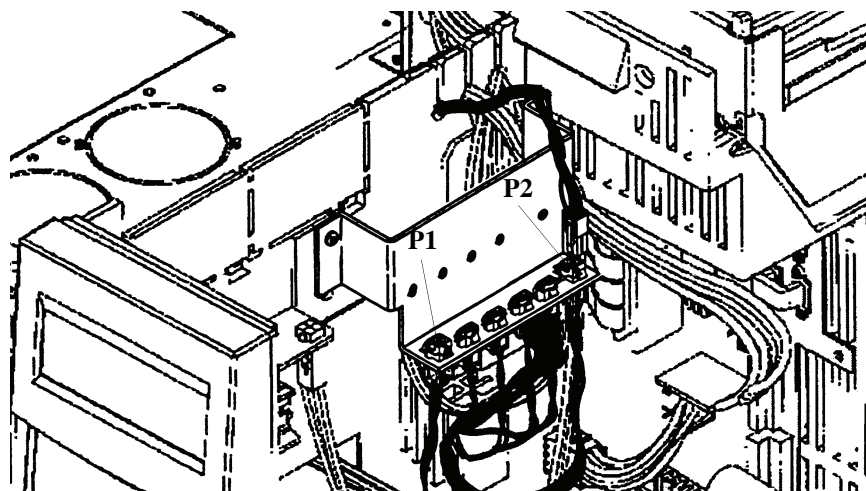

Figure 4.10. Valve heater driver
10. If both detector ports are occupied by existing detectors, plug the heater cable assembly to the valve heater driver for the GC. If the valve heater driver is installed on the GC, plug the heater cable assembly to either the P1 or P2 position (Figure 4.10). If the valve cable assembly and bracket are not already installed on the GC, order them separately. Both the valve driver block (PN 280818; Agilent PN G1580-00070) and the valve driver wire harness (PN 280834; Agilent PN G1530-60660) are needed. See the *Agilent 6890 GC Service Manual* for instructions on installing these items.